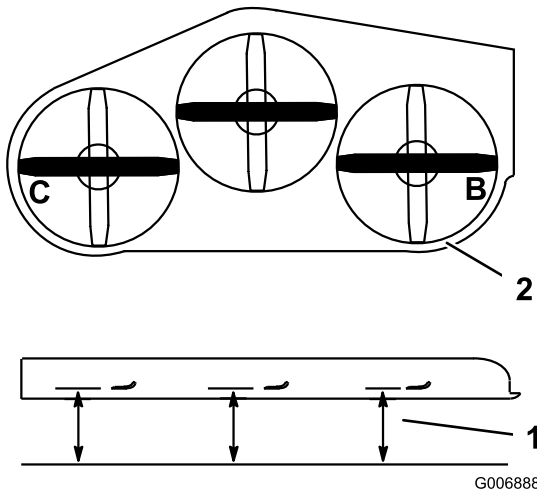

Figure 83
1. Position the **right** blade side-to-side (Figure 83).
2. Measure the right blade at the **B** location, from a level surface to the cutting edge of the blade tip (Figure 83).
4. Position the left blade side-to-side (Figure 83).
5. Measure the left blade at the **C** location (Figure 83), from a level surface to the cutting edge of the blade tip.